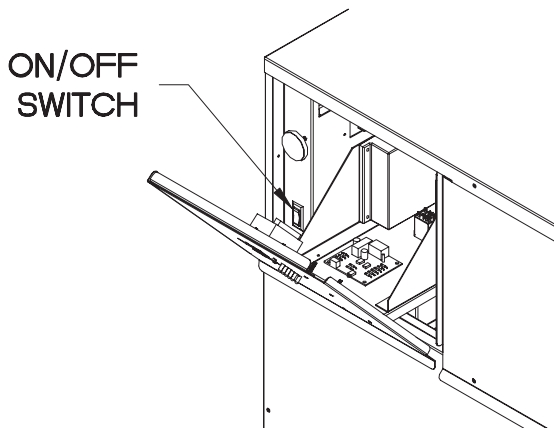

Figure 42 – ON/OFF Switch
5. Locate the ON/OFF switch inside control area. Switch is located to the left of the pull out control circuitry tray (see Figure 42).